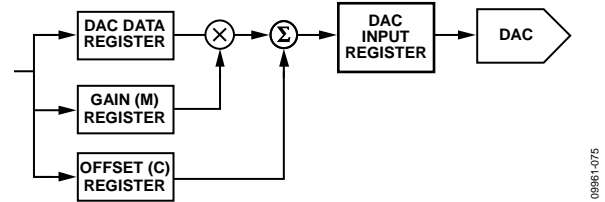

Figure 75. Digital Offset and Gain Control
Each DAC channel has a gain (M) register and an offset (C) register, which allow trimming out of the gain and offset errors of the entire signal chain. Data from the DAC data register is operated on by a digital multiplier and adder controlled by the contents of the gain and offset registers; the calibrated DAC data is then stored in the DAC input register (see Figure 75).
Although Figure 75 indicates a multiplier and adder for each channel, the device has only one multiplier and one adder, which are shared by all four channels. This design has implications for the update speed when several channels are updated at once (see Table 3).